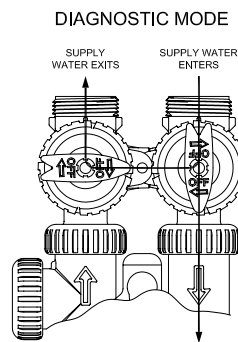

figure 3
3. Diagnostic Position: The inlet handle points in the direction of flow and the outlet handle points to the center of bypass valve, system water pressure is allowed to the control valve and the plumbing system while not allowing water to exit from the control valve to the plumbing. (see figure 3)
If using optional bypass **SLOWLY** turn bypass valve to **DIAGNOSTIC** position (See figure 3 on page 4) or slowly open inlet valve to allow water to slowly enter filter.